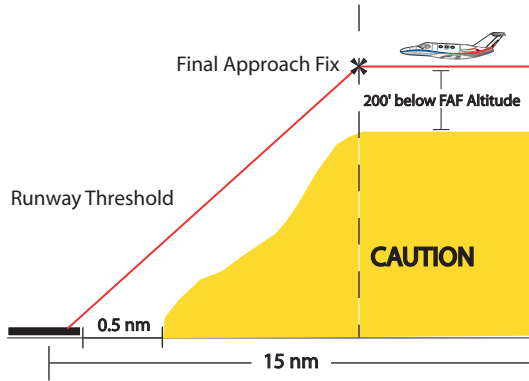

Figure 3-1: Example of Non-Precision Approach PDA alert threshold. The threshold for the descent is computed by algorithms based on varying flight conditions.
- Non-Precision Approach Loaded—PDA alerting begins when FAF is the active waypoint AND the aircraft is within 15 nm of the destination airport. Again, algorithms are used to set a threshold for alerting based upon various parameters (Figure 3-1). PDA alerting ends at 0.5 nm from the runway threshold OR at an altitude of 125' AGL while within 1 nm of the threshold.